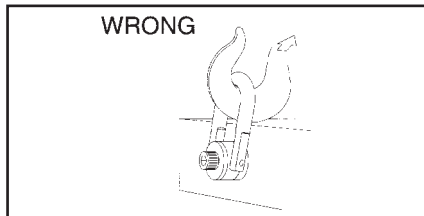

Figure 2
- Apply partial load and check proper rotation and alignment. There should be no interference between load (work piece) and hoist ring bail. (Fig. 2)